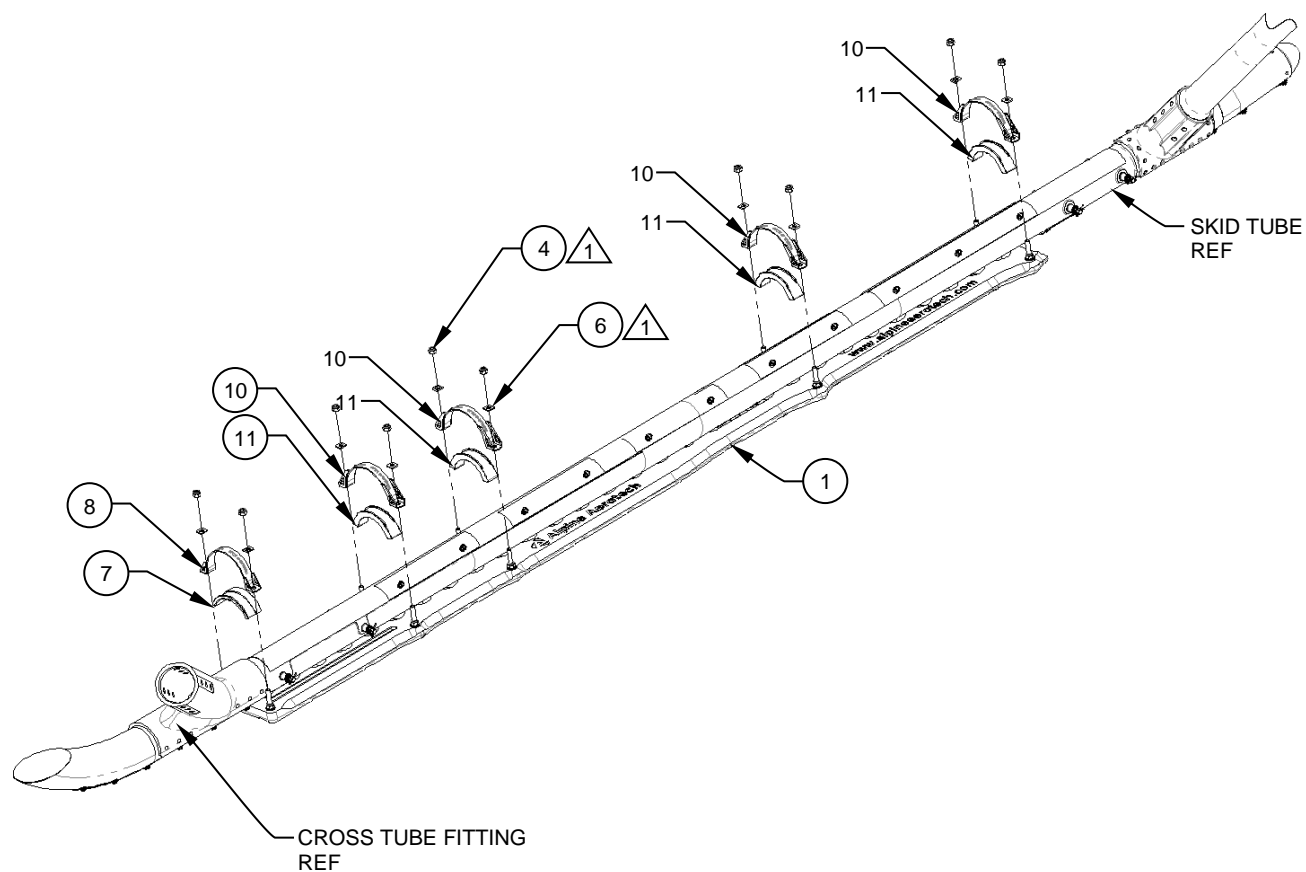

Figure 4
Reference Figure 4.
3. Install the supplied Washer (Item 6) and Nut (Item 4) on each bolt. Reference Figures 4 & 5.